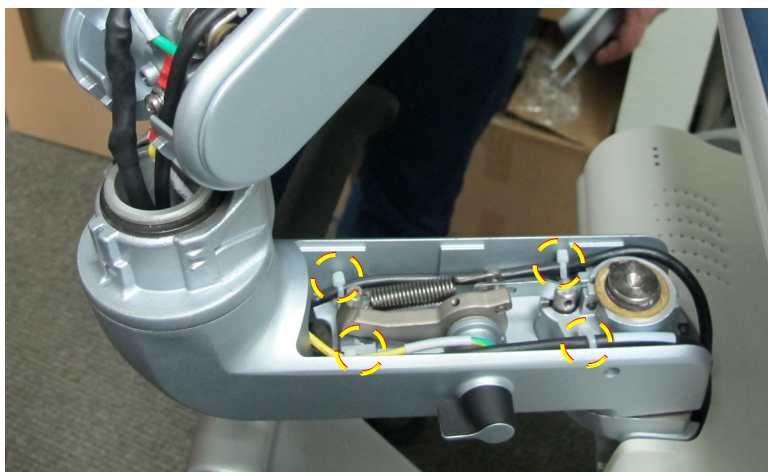

Figure 8-102 Four Tie-wraps on Lower Articulated Arm
Cut four tie-wraps on lower articulated arm - see Figure 8-102 below.
- 10.) Secure the cables in the lower section of the articulated arm with tie-wraps as shown in Figure 8-102 on page 8-83.